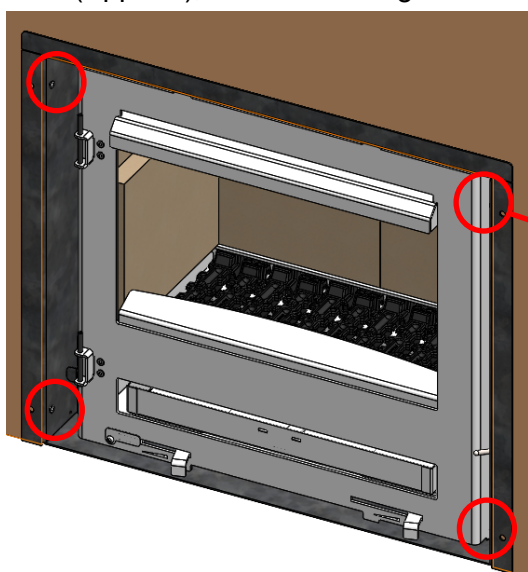

Fig. 2. Hole Locations
Step 2 : With the door removed, access to the LH holes (hinge side) are visible in the outer external casing, together with the RH holes, as shown in Fig. 2. Take the 4 no. self tapping screws and fit to each of the holes. (Note — DO NOT FULLY TIGHTEN SCREWS — LEAVE A 4mm GAP (Approx.), as shown in Fig. 3.